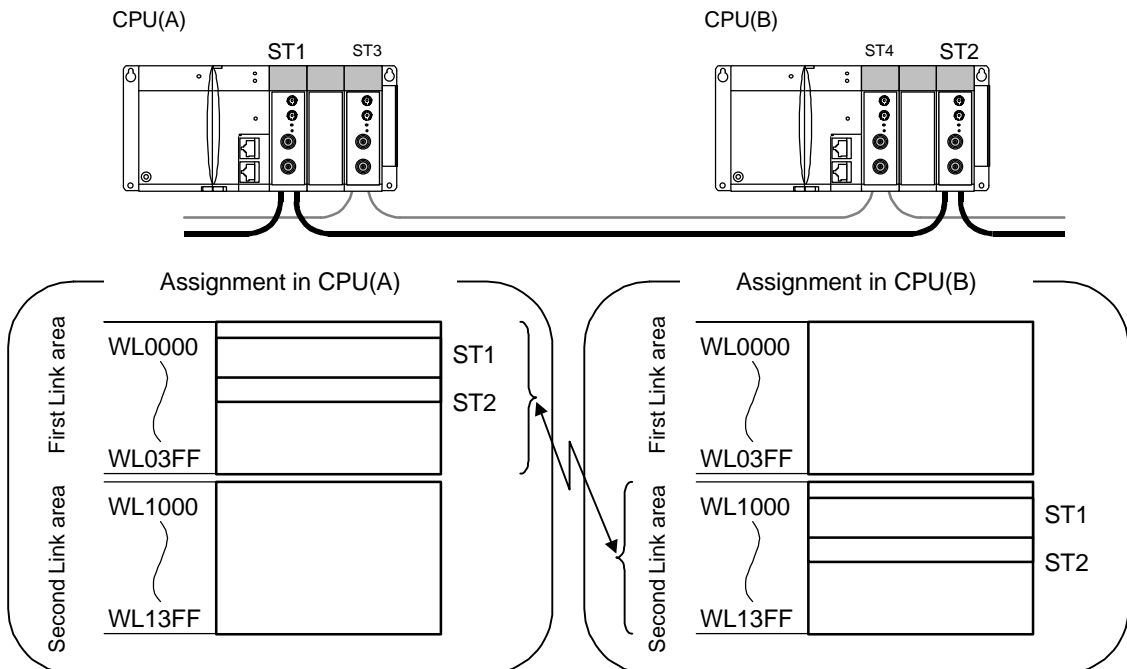

Figure 4.5 Example of link data assignment
An example of a CPU link system configuration is shown in figure 4.5.
In the system configuration shown in figure 4.5, the CPU (A) CPU link module (ST1) is located in the first CPU link position, and link data assignment with CPU (A) is carried out within the first CPU link area. In addition to this, link data assignment for the CPU (B) link module (ST2) is also carried out in the first link area when viewed from CPU (A).